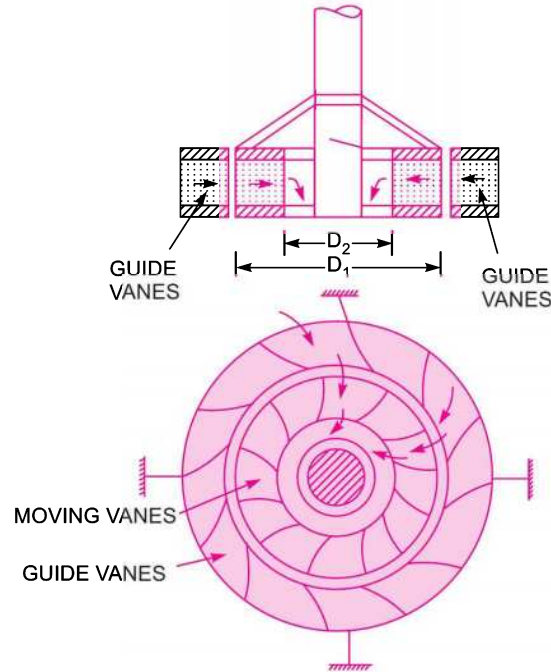

Fig. 18.11 *Inward radial flow turbine.*
**18.7.2 Inward Radial Flow Turbine.** Fig. 18.11 shows inward radial flow turbine, in which case the water from the casing enters the stationary guiding wheel. The guiding wheel consists of guide vanes which direct the water to enter the runner which consists of moving vanes. The water flows over the moving vanes in the inward radial direction and is discharged at the inner diameter of the runner. The outer diameter of the runner is the inlet and the inner diameter is the outlet.